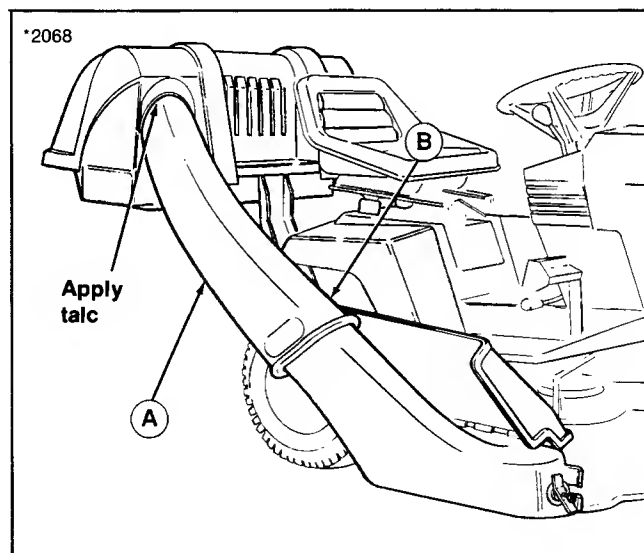

Figure 11.
14. Apply dry talc powder to rubber seal at cover opening. Install tube (A, figure 11) as far as possible into opening to clear adaptor and install over adaptor.